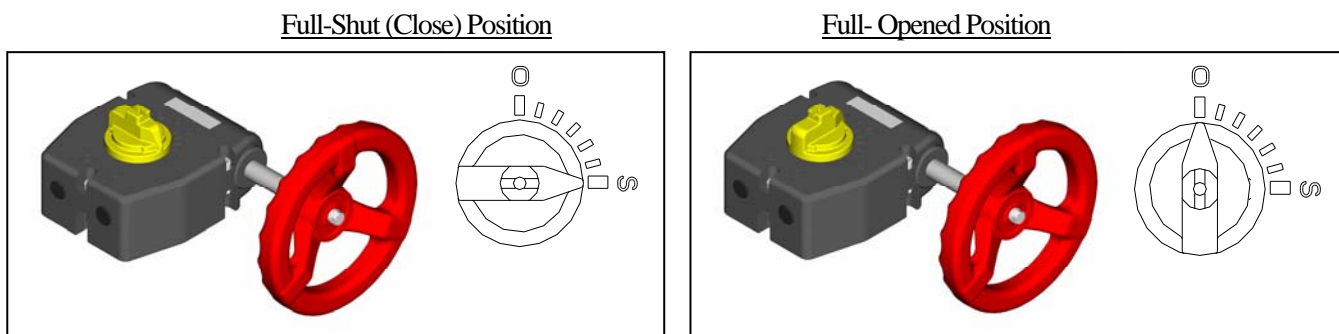

Fig. 9-2
- 3) In case of gear type (40-350 mm { 1 1/2''-14''}), the indicator shows the position of the disc on the top of gear box. (Fig.9-2)
- For the full-shut (close) position, the indication shows Shut (S).
- For the full-opened position, the indication shows Open (O).